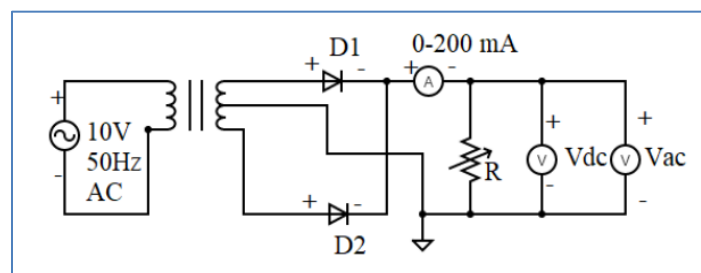

Fig 10 Full wave rectifier without filter
3.3 Verification of Full wave rectifier without filters using hardware shown in fig 10 and draw the waveforms.